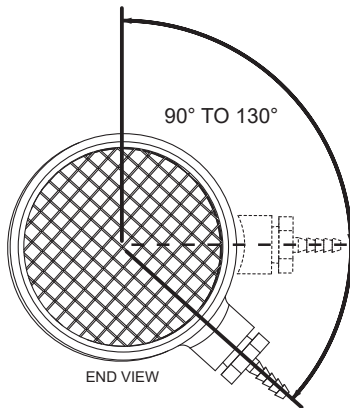

Figure 18. Orientation of Intake Air Tee Fitting
Ensure the hose barb installed in the Tee fitting **is not** facing down towards the ground (180° - 6 o'clock position) before venting installation begins. The barb fitting must be angled between 90° and no more than 130° as shown in **Figure 18**. If the barb fitting is facing down, residual condensate that occasionally forms in the intake air pipe can drain into the Blocked Intake Air switch through the attached sensing tube and damage the switch. This condition can also lead to Blocked Intake Air fault conditions and associated control system lock outs.
The intake air Tee fitting is factory-installed with the 1/2 inch branch and hose barb angled to the right at approximately 130° when viewed from the end, see **Figure 18**. The Tee fitting's 1/2 inch branch and hose barb must not be angled any lower (towards the ground) than this factory specification. Angling higher, up to a 90° position, will not adversely affect operation and is acceptable.
Inspect the angle of the Tee fitting's 1/2 inch branch and hose barb while viewing from the end of the Tee. See **Figure 18**. If the angle of the Tee fitting 1/2 inch branch and hose barb is lower than shown, adjustment will be necessary. To adjust the intake air Tee fitting angle follow the steps listed below.
4. Adjust the angle of the Tee fitting so that the 1/2 inch branch and hose barb are at the proper angle as shown in **Figure 18**.